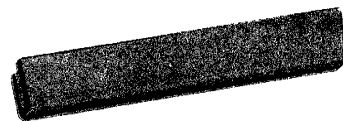

Fig. 16 — B Clip Terminal Insulator
6.09 The B clip terminal insulator is a red plastic insulator, Fig. 16, designed to protect one row of terminals on the 66-type connecting block. This insulator may be cut with diagonal pliers to fit all clip-type connecting blocks.